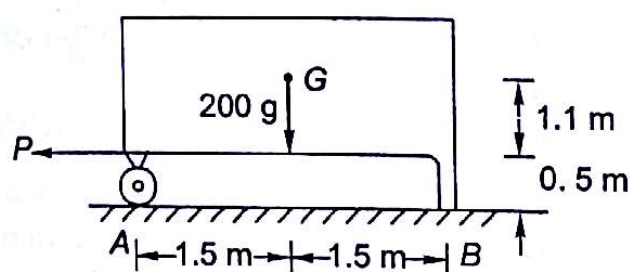

Fig. 15.17
- 15.1 A body of mass 200 kg is supported by wheels at A which roll freely without friction and by a skid at B . The coefficient of friction under the skid is 0.45. Determine the value of P . So as to cause an acceleration of $0.35g$ of the body (Fig. 15.17).